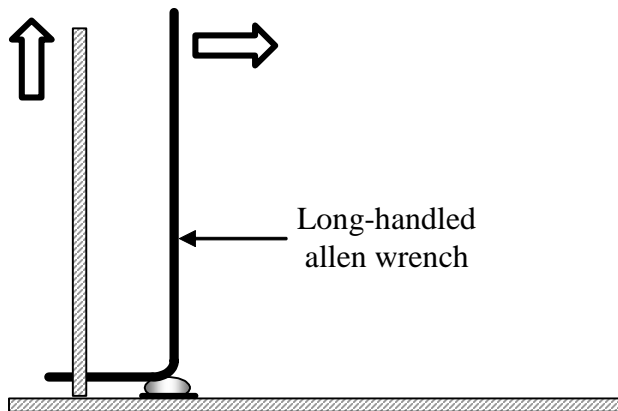

Figure 6-11
- The long-handled Allen wrench can be used to extract the Control board (Figure 6-11). To the left of J7 on the RF board you'll find the label "LIFT" near a hole at the base of the Control board. Insert the Allen wrench into this hole, then rest the knee of the wrench on the nearby screw head. Pry the board up with the wrench while guiding the board out at the top.